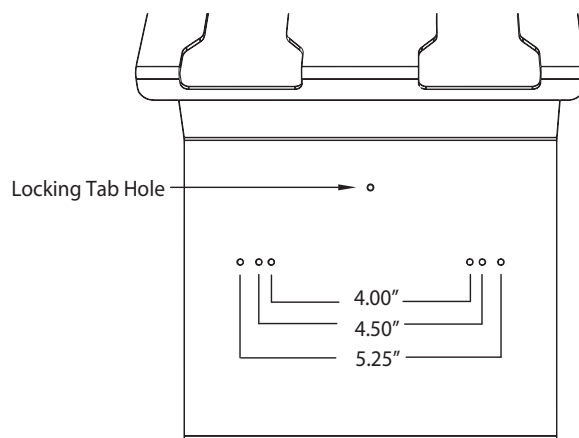

FIG. 1
The mount has seven holes (FIG. 1) in the sheetmetal face for the supplied mounting screws to secure your Dewalt Charger and metal locking tab.
The Locking Tab (E) will securely hold the charger to the mount. The locking tab is installed with one #8x1/2" (B) Screw. Position the tab as shown in Fig. 1. It helps to installed this screw with an extension on your impact driver. The tab is slotted to allow it to be slid tight against the charger. Tighten the screw to snug the tab against the charger.